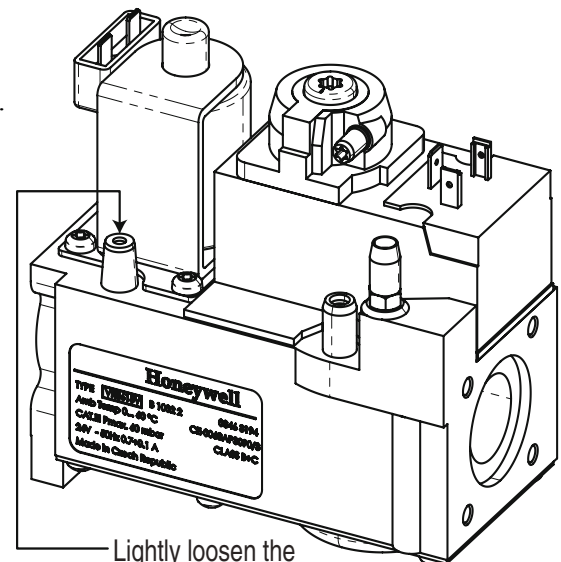

Figure 10.
2. Loosen the small screw inside the pressure tap as shown in Figure 10.